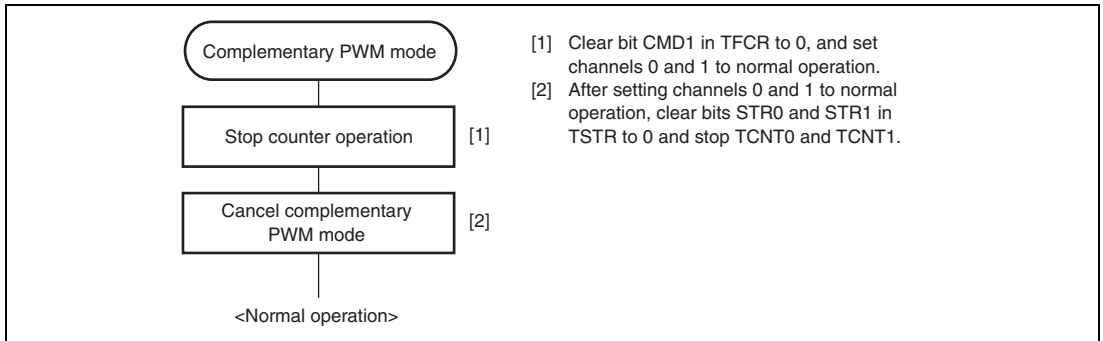

Figure 12.30 Canceling Procedure of Complementary PWM Mode
1. Canceling Procedure of Complementary PWM Mode: Figure 12.30 shows the complementary PWM mode canceling procedure.